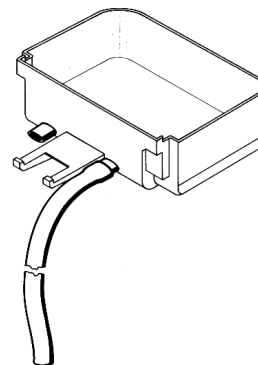

figure 1
- 7 - Each drip tray has two diaphragm plugs: if a continuous drain is needed, perforate one of the drain plugs and connect it to a flexible drain line (see figure 1).